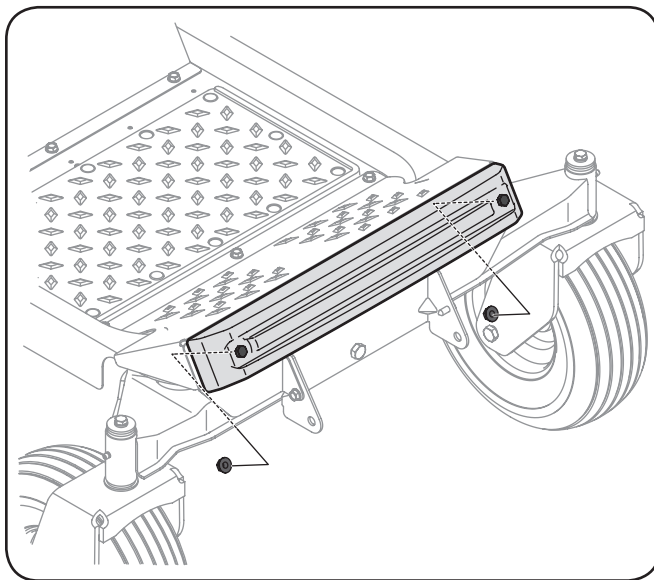

Figure 4-23
2. Position the weight bar onto the foot rest and secure it in place with two 3/8" flange nuts (712-04065) from the same hardware pack. See Figure 4-23.